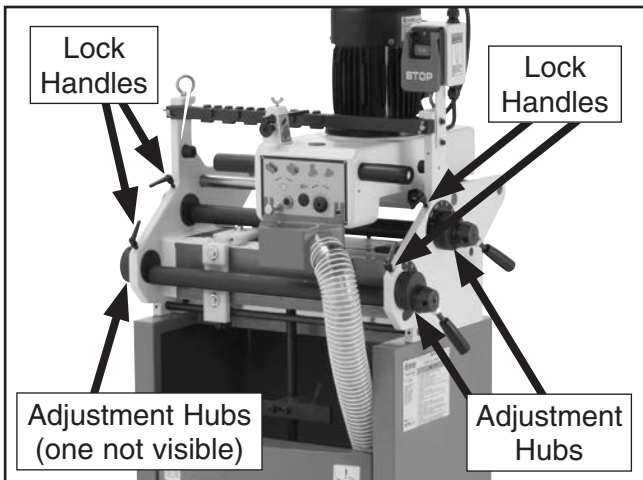

Figure 20. Lock handles and adjustment hubs for adjusting bar clamp clamping thicknesses.
1. Loosen the lock handles that secure the vertical workpiece clamp adjustment hubs (see **Figure 20**).